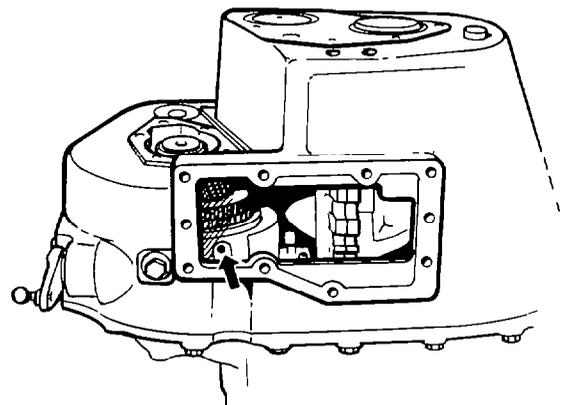

Figure 35 Spring Pin
- (9) Move the forward/reverse selector fork to the reverse position; use a pin-punch and hammer to remove the spring pin from the forward/reverse selector fork (see Fig 35).